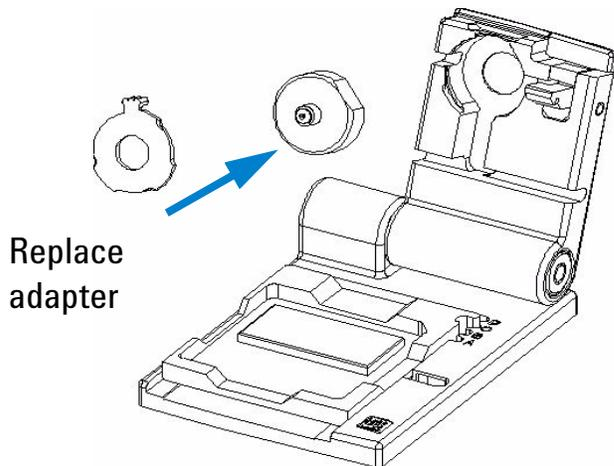

Figure 10 Replacing the Syringe Adapter
- 4 Press the syringe adapter out of its mount and dispose it according to good laboratory practices, as shown in Figure 10, “Replacing the Syringe Adapter”.